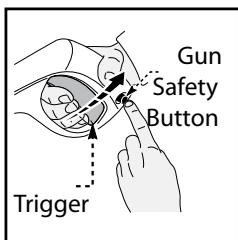

Fig. 6
- To lock the trigger of the spray gun aim the gun away from you and push the lock button from right to left, (Fig. 6), after doing so, squeeze or pull the trigger to make sure it is locked and will not move. Get in the habit of leaving the lock button in the "locked" position when the power washer is not in use. This ensures the gun is in "safe" mode until it is ready for use.